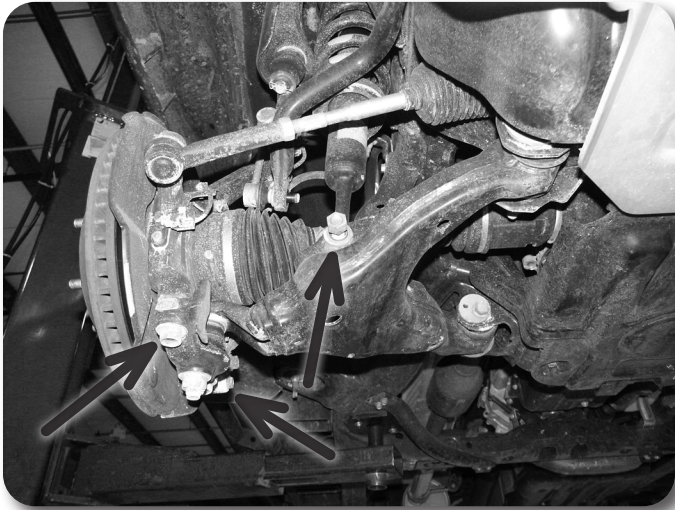

Figure 2
5. Remove the 2 lower ball joint mount bolts from the steering knuckle. **Figure 2** Save bolts.
6. Remove the lower strut mount bolt at the lower control arm. **Figure 2** Swing the lower control arm down and out of the way. Save hardware.